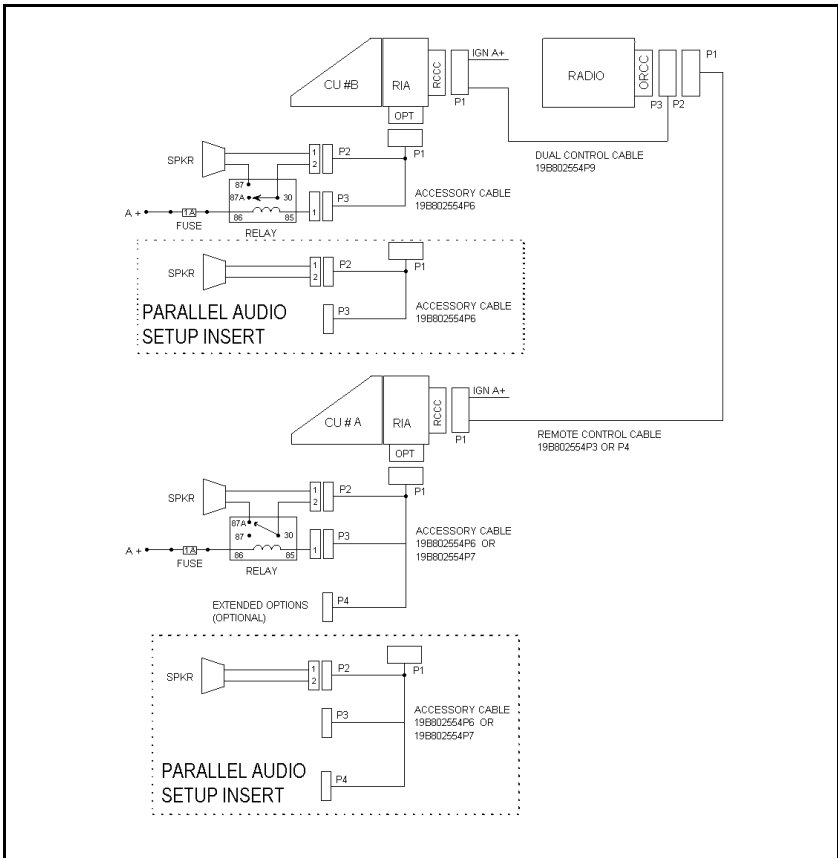

Figure 46: Dual Control Unit Remote Mount Installation Configuration using 19B802554P3 or P4
1. Referring to Figure 46 and Figure 47, run the Remote Control Cable (19B802554P3, 19B802554P4 or CA101288V4) between locations for the Radio unit and Main Control unit.
For wiring information, refer to the Parallel Audio Setup Insert section of Figure 46 and Figure 47. Perform the following steps to install parallel audio speakers:
2. Hardwire each speaker directly (without relays) as shown in Figure 46 and Figure 47.
11. Main Control Unit Speaker: Connect the lead nearest the speaker to Pin 87 of the relay. Connect the lead nearest the connector to Pin 30 of the relay. Connect the speaker connector to the accessory cables P2. Refer to Figure 46 and Figure 47.
12. Auxiliary Control Unit Speaker: Connect the lead nearest the speaker to Pin 87A of the relay. Connect the lead nearest the connector to Pin 30 of the relay. Connect the speaker connector to accessory cables P2. Refer to Figure 46 and Figure 47.
13. For Each Relay: Connect a #18 AWG black wire between the relay, Pin 85 and accessory cable P3-1 (labeled “OUT2” on schematic diagrams in the service manual). Use a ¼” tab receptacle on the relay side and a mating Molex connector and pins on the accessory cable side. Connect the mating Molex connector to the accessory cable P3 when finished. (Refer to Figure 46 and Figure 47.)
14. For Each Relay: Connect one end of a #18 AWG red wire to the relay, Pin 86. Cut the lead to length, and connect the other end to the 1 amp fuse holder supplied. Use crimp on connectors supplied. Connect the other side of the 1 amp fuse holder to the A+ battery source or a vehicle A+ fuse block. Use a #18 AWG red wire and a ring lug supplied, if needed. (Refer to Figure 46 and Figure 47.)